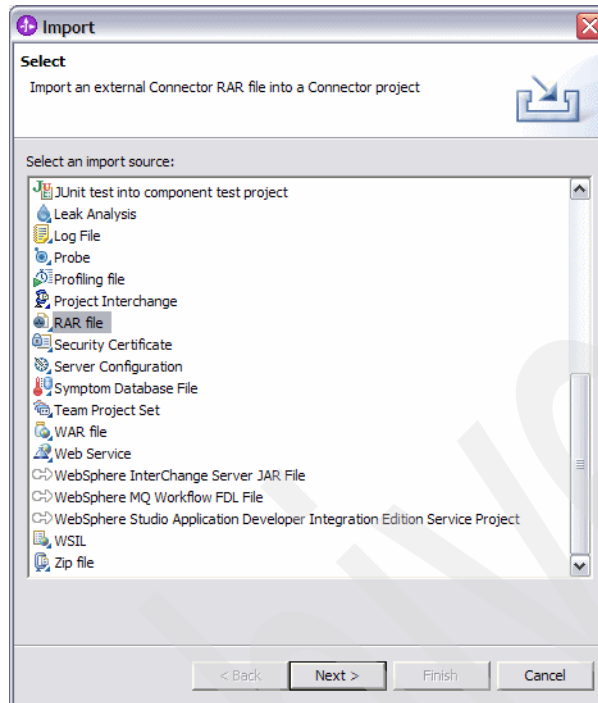

Figure 2-1 Select import type
2. Select **RAR file** and click **Next** (Figure 2-1).